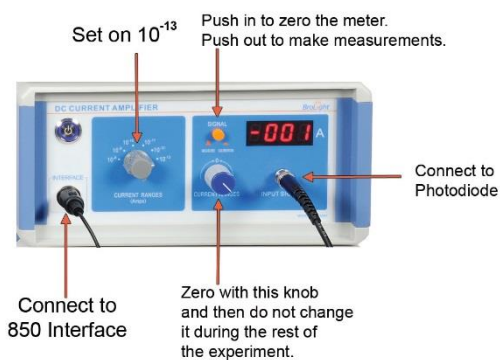
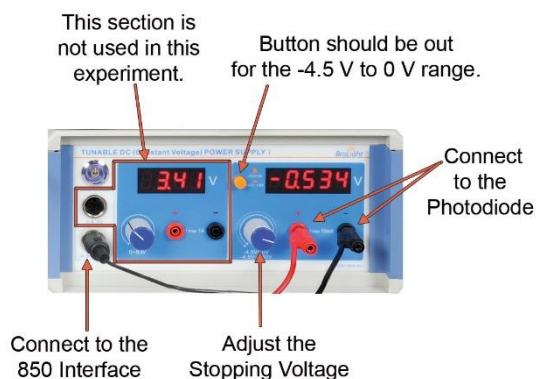

Figure 4: Current Amplifier Settings
Figure 5: DC Power Supply Settings
4. Connect a DIN-plug-to-DIN-plug cable between Channel A on the 850 Interface and the DC Current Amplifier (see Figure 4). Connect a DIN-plug-to-DIN-plug cable between Channel B on the 850 Interface and the DC Power Supply port labeled -4.5 V to 0 V (the lower port)(see Figure 5).
6. On the DC Current Amplifier, turn the CURRENT RANGES switch to  $10^{-13}$ A. Press the Calibration button in to zero the meter. Turn the knob until the meter reads 000 A (see Figure 4).
8. On the DC Power Supply, make sure the button is out to select the -4.5 V to 0 V range (see Figure 5).